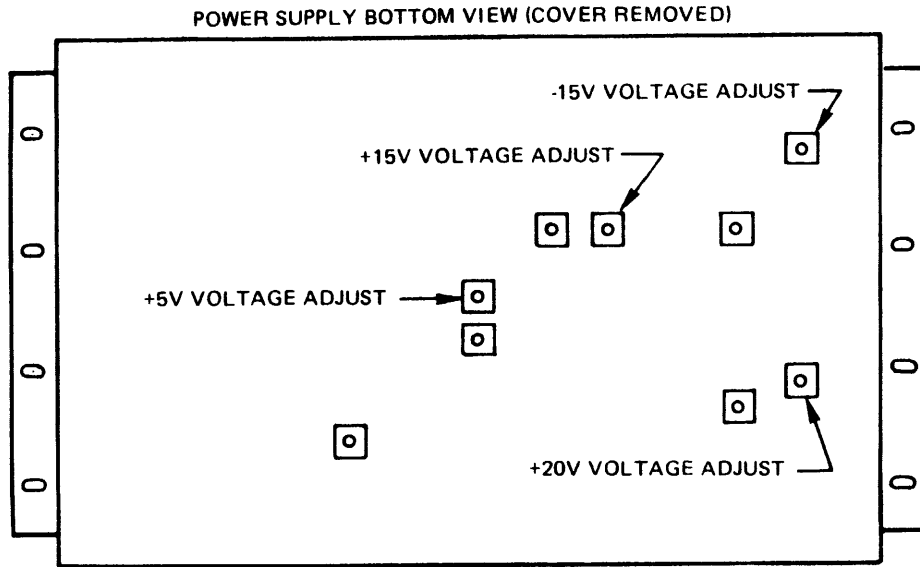

Figure 5-2. Power Supply Adjustment Potentiometers
3. Measure the output at J17 with a VOM or digital voltmeter and, if any output registers outside +2% nominal value specified for that output, adjust the appropriate potentiometer to bring the value within the range. Figure 5-2 illustrates the four potentiometers provided for this adjustment.